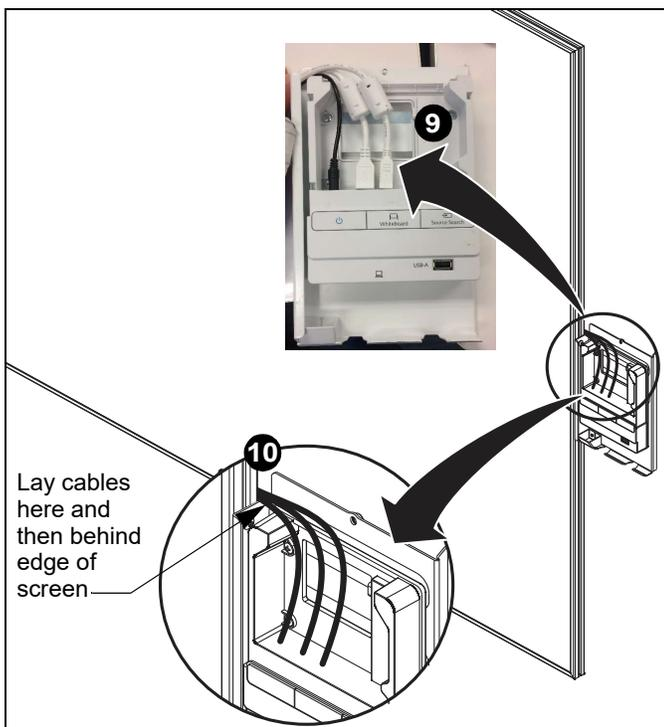

Figure 52
9. Connect cables (run along screen frame) from projector mount to connectors in control pad. (See Figure 52)
10. Run cables from the connectors through the left side of the control pad bracket and then behind the screen edge. (See Figure 52)